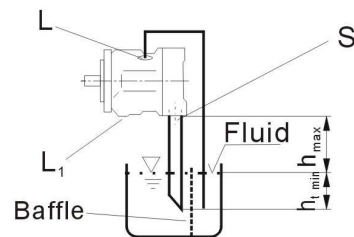

Fig. 4
b) If the minimum fluid level is equal to or below the top of the pump, pipe ports "L" and possibly "S" as Fig. 4.; close port "L1".
a) When mounting above the reservoir, see Fig. 4. Conditions according to 1.2.1.